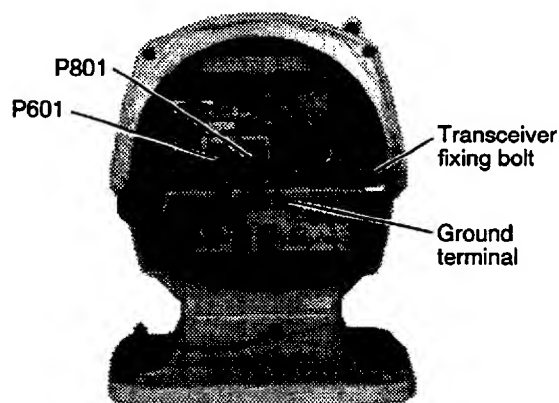

Figure 10 Transceiver unit, front view
- 11) Install the transceiver unit. Connect plugs P801 and P601. Fasten the shields (inner and outer combined) to the ground terminal on the transceiver unit. See Figure 10 for location of ground terminal.